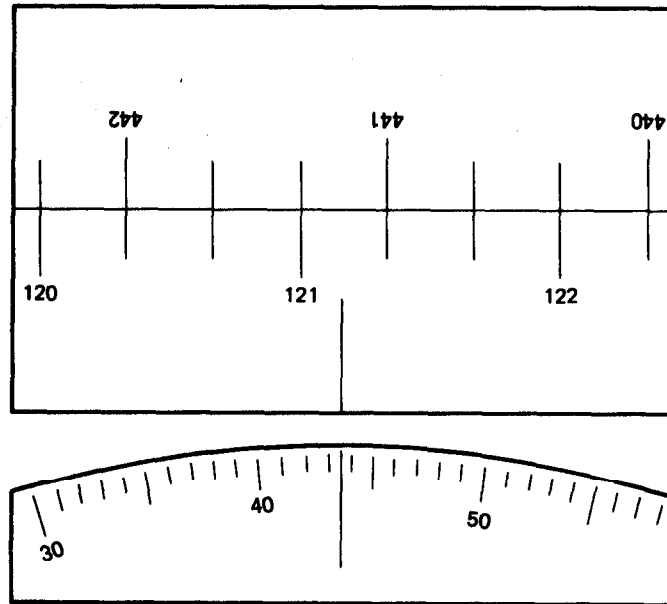

Figure 5-3. Horizontal Circle Readings
5-5. Horizontal Circle Readings. (See figure 5-3.) On the roil-graduated theodolite, the main scale (upper window) is graduated in 2-mil increments. Each fifth graduation is numbered, omitting the unit digits; e.g., 10 roils appear as 1; 250 roils as 25; and 3,510 roils as 351. The micrometer scale (lower window) is graduated from 0.000 mil to 1.000 roil. Each 0.002 mil is marked with a graduation, and each fifth graduation is numbered (hundredth of a roil). The scale may be read to 0.001 mil by interpolation. To determine a reading on the horizontal circle:
- e. Determine the first erect numbered graduation to the left of the index line that marks the center of the upper window. This numbered graduation indicates the value of the circle reading in tens of roils. In figure 5-3, this value is 121.
- j. Add the values determined in h and i above ($1,211 + 0.403 = 1,211.403$ roils, the angular value displayed in figure 5-3).